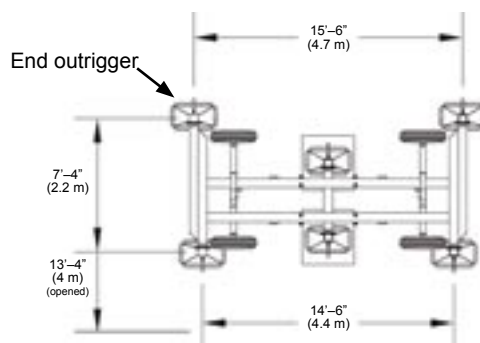

Fig. 148
- 2- Extend the four end outriggers on the mobile chassis until the distance between them equals 13' 4" (4 m), as illustrated in fig. 148, on p. 62.
- 3- Extend the four end outriggers on the mobile chassis until the distance between them equals 13' 4" (4 m), as illustrated in fig. 148.